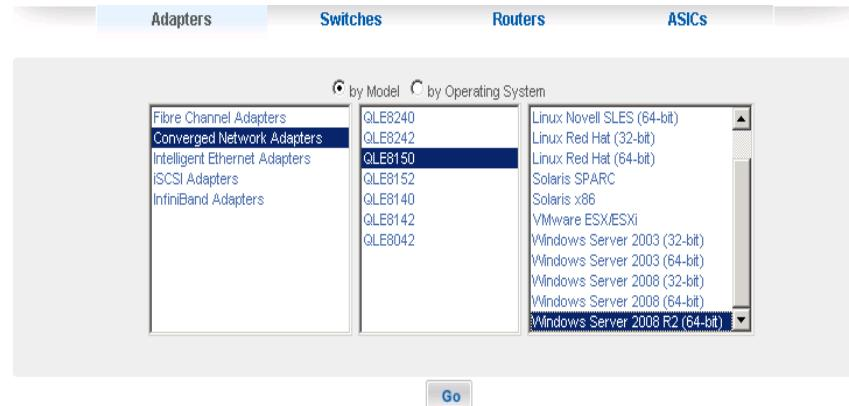

Figure 3-31. Select an Adapter and a Windows Operating System
6. In the third column, click the version of the Microsoft Windows operating system that is installed on the server. For example, in Figure 3-31, **Windows Server 2008 R2 (64-bit)** is selected for a QLE8152 adapter.